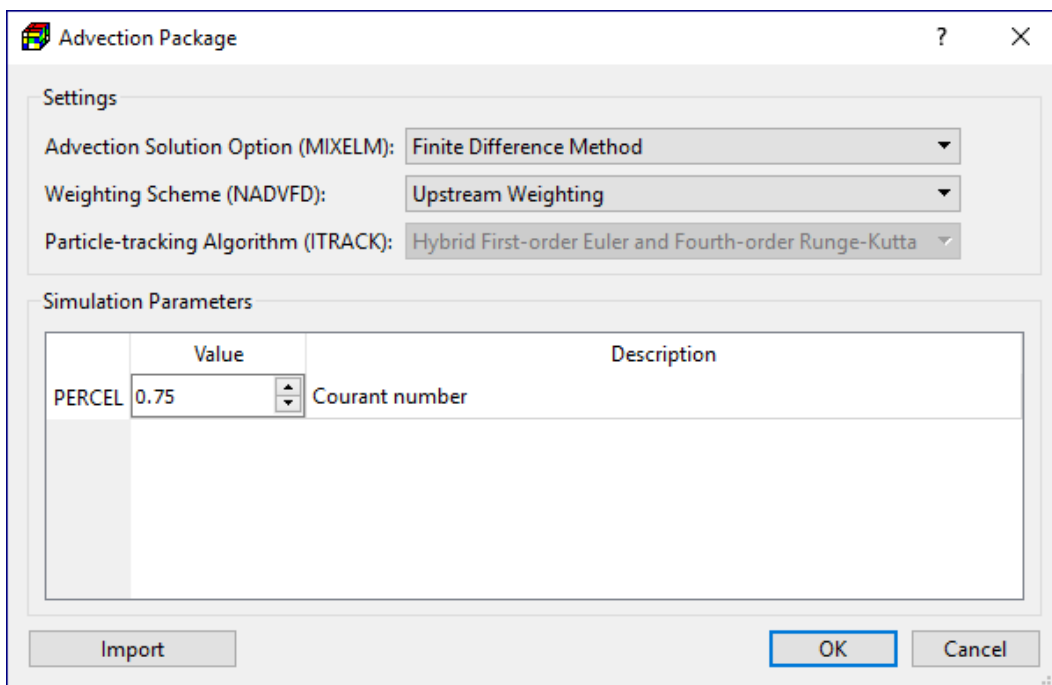

Figure 27. The Advection dialog box
1. Select Models > MT3D/SEAWAT > Packages > Advection (ADV) to open the Advection Package dialog box (Figure 27).
2. Enter the values and settings as shown in Figure 27.